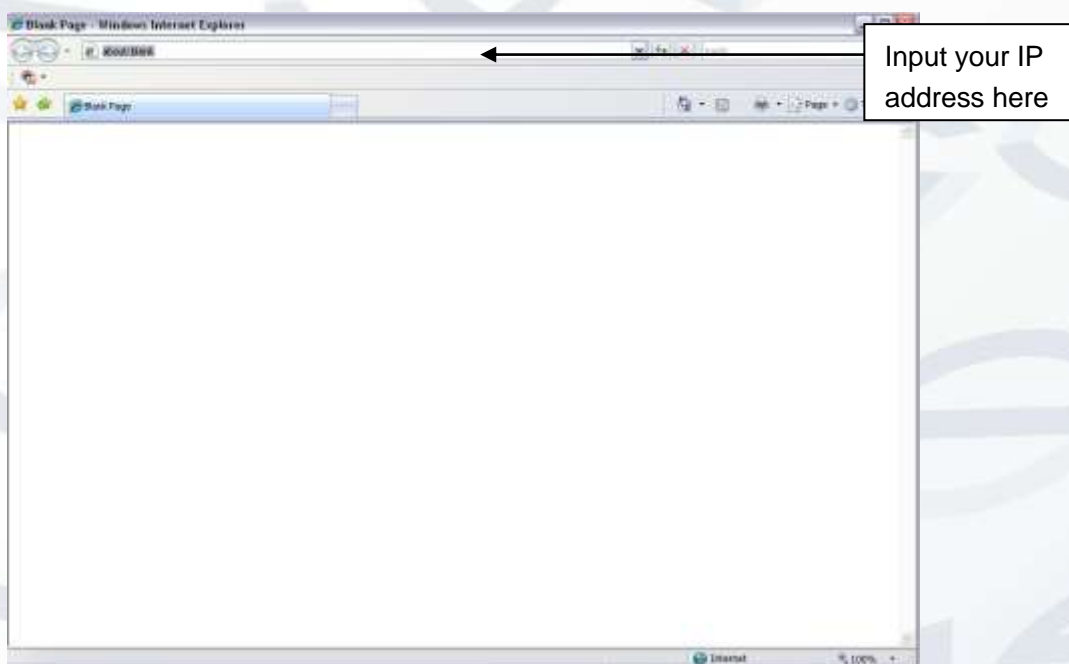

Figure 6-1
- For example, if your device IP is 192.168.1.108, then please input `http:// 192.168.1.108` in to the IE address bar. See Figure 6-1.